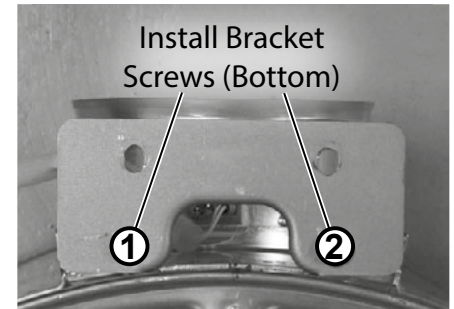

Figure 24 - Heat exchanger install bracket
- 48 Locate the two (2) bottom screws securing install bracket to old heat exchanger as shown in Figure 24. Remove screws and install bracket from old heat exchanger. Secure install bracket to the new heat exchanger with the two (2) bottom screws.